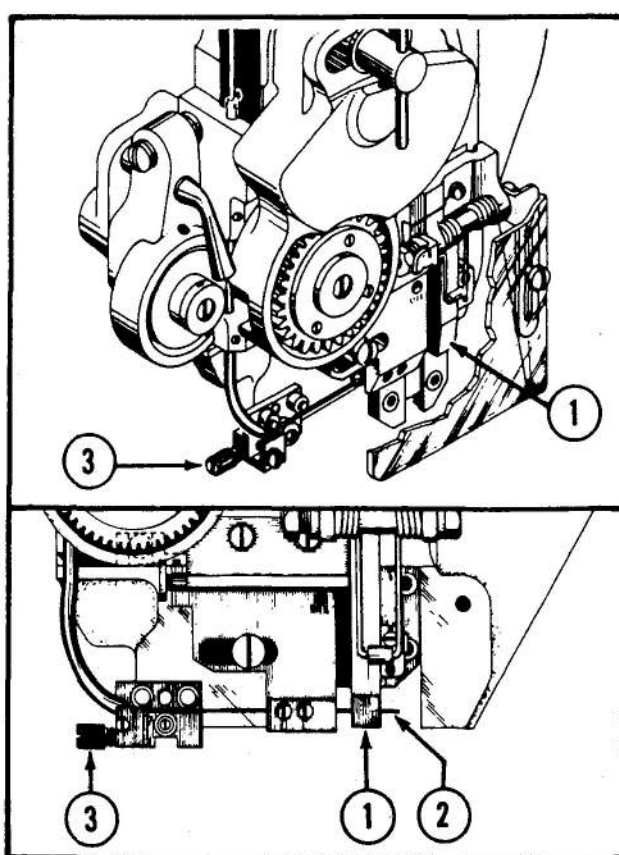

Figure 3—Straightening Wire on Head
(See Fig. 3)
a. After wire has been threaded into head, as directed in para. 1, immediately preceding, turn over machine by hand until wire has been cut and is being held by the gripper (1). Observe that the wire length being held by the gripper does not curl upward or downward; the cut wire length should be as close to a straight line as possible, as shown at (2) in insert in Fig. 3.